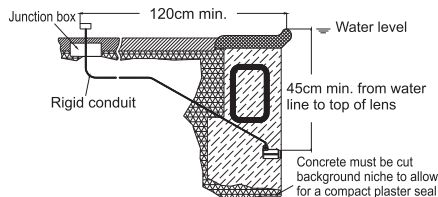

Figure 1
3. Make sure the voltage is 12V and the terminal box is at least 120cm from the poolside (Figure 1)
4. Upon installation, top of the light must be at least 45cm from water surface (Figure 1).